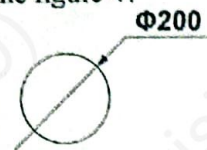

Figure 4
23. What is the purpose of leaders on drawings as illustrated on the figure 4?